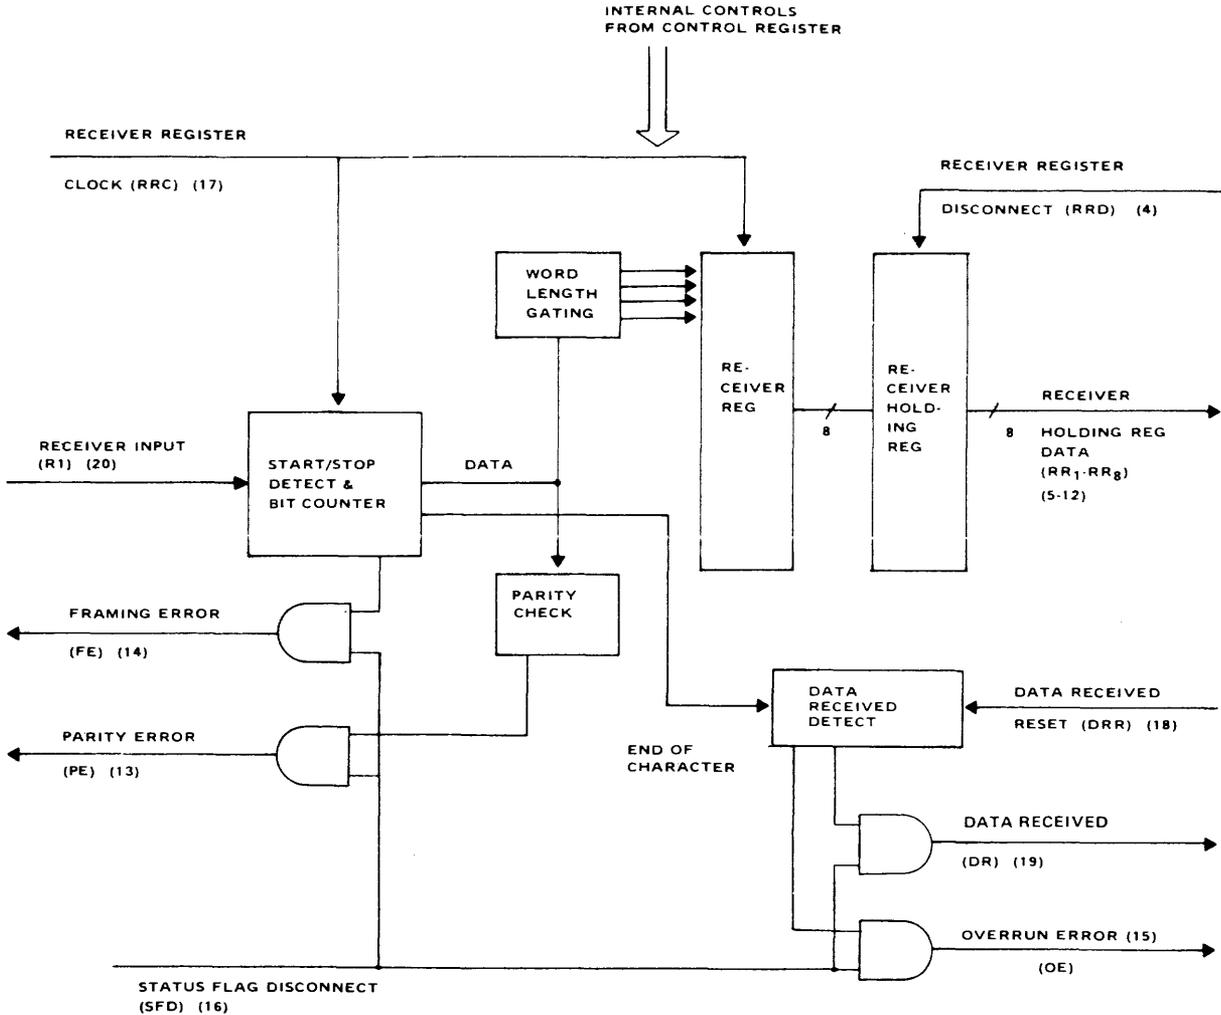

Figure 8. Receiver Block Diagram
Figure 8 is a block diagram of the Receiver portion of the TR1602. Serial asynchronous data is provided to the Receiver Input (RI). A start bit detect circuit continually searches for a logic one to logic zero transition while in the idle state. When this transition is located, a counter is reset and allowed to count until the center of the start bit is located. If the input is still a logic zero at the center, the signal is assumed to be a valid start bit and the counter continues to count to find the center of all subsequent data and stop bits. (Verification of the start bit prevents the receiver from assembling an erroneous data character when a logic zero noise spike is presented to the Receiver Input). The Receiver is under control of the Control Register described in the previous paragraph. This register